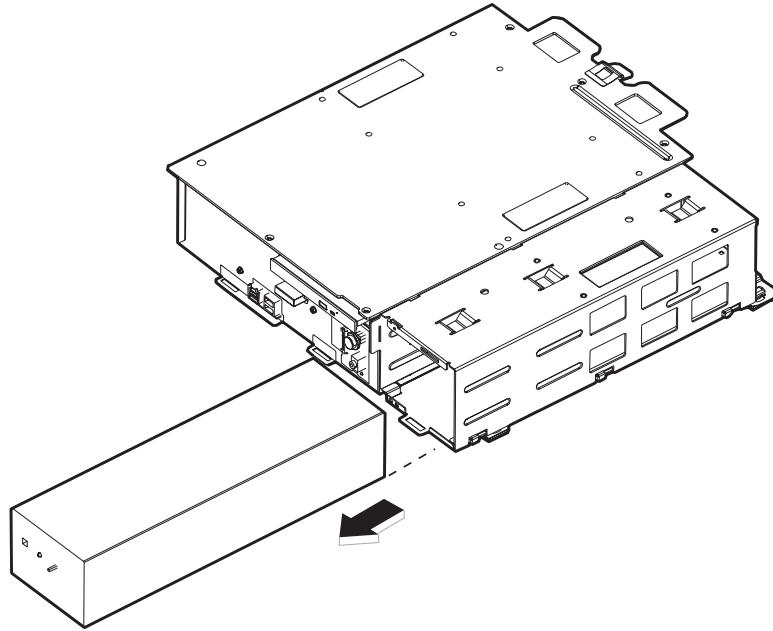

Figure 48. Removing the UPS
5. See Figure 48 and slide the UPS from the expansion housing.